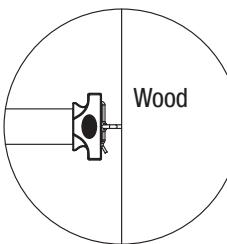

Figure 3
3. If necessary, the eyelet terminal can be used to fix the tape on wooden or masonry walls by means of an expansion bolt. (fig. 3 e 4)